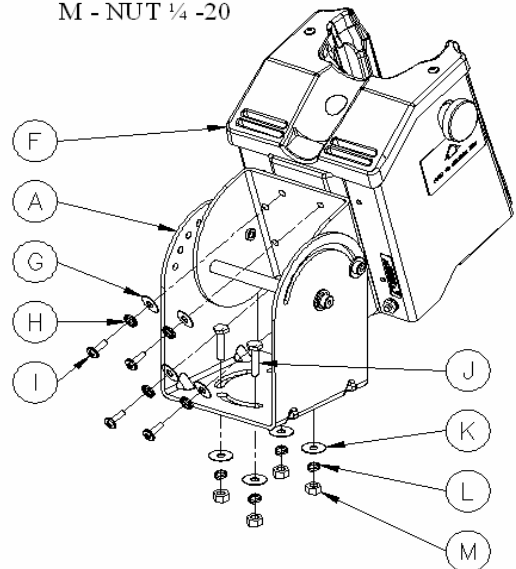

Figure 4
Step 2: Attach Bracket to Cradle: Place Screw (I) through Lock Washer (H), Flat Washer (G) and Heavy Duty Bracket (A) and affix to Cradle (F). Four places (see Figure 4). Torque to 18.0 in-lbs.
Step 3: Secure Base to Platform: Use the supplied bolt hole pattern to drill the required holes in the local platform. Hole diameters must not exceed 9/32 inches. The kit provides 1 inch bolts - if these are not appropriate, replace only with stainless steel (type 18-8) 1/4-inch bolts, thread type 20, and ensure at least two threads are visible when nuts (M) are in place. Place Bolt (J) through Heavy Duty Bracket (A), Local Platform, Flat Washer (K), and Lock Washer (L), and affix with Nut (M). Four places (see Figure 4). Torque to 65 in-lbs.